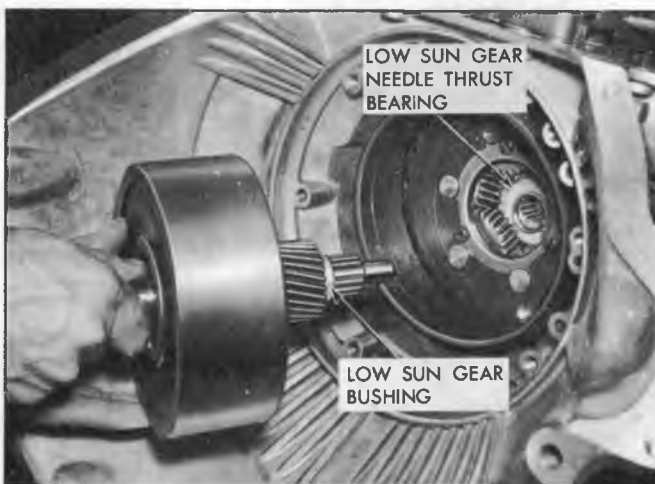

Fig. 7PG-Removing Clutch Drum and Input Shaft
11. Release the tension on the low band adjustment, then, with transmission horizontal, grasp the transmission input shaft and carefully work it and the clutch assembly out of the case (fig. 7PG). Use care so as not to lose the low sun gear (splined) bushing from the input shaft. The low sun gear thrust washer will probably remain in the planet carrier.